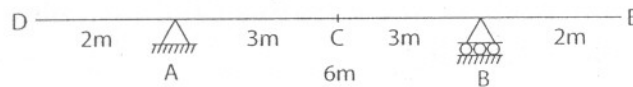

Fig. 1
6. Construct the influence diagrams for shear force and bending moment at section C for the over-hanging beam shown in fig.1. Hence calculate the maximum of these values due to a travelling point load of 100KN. 3